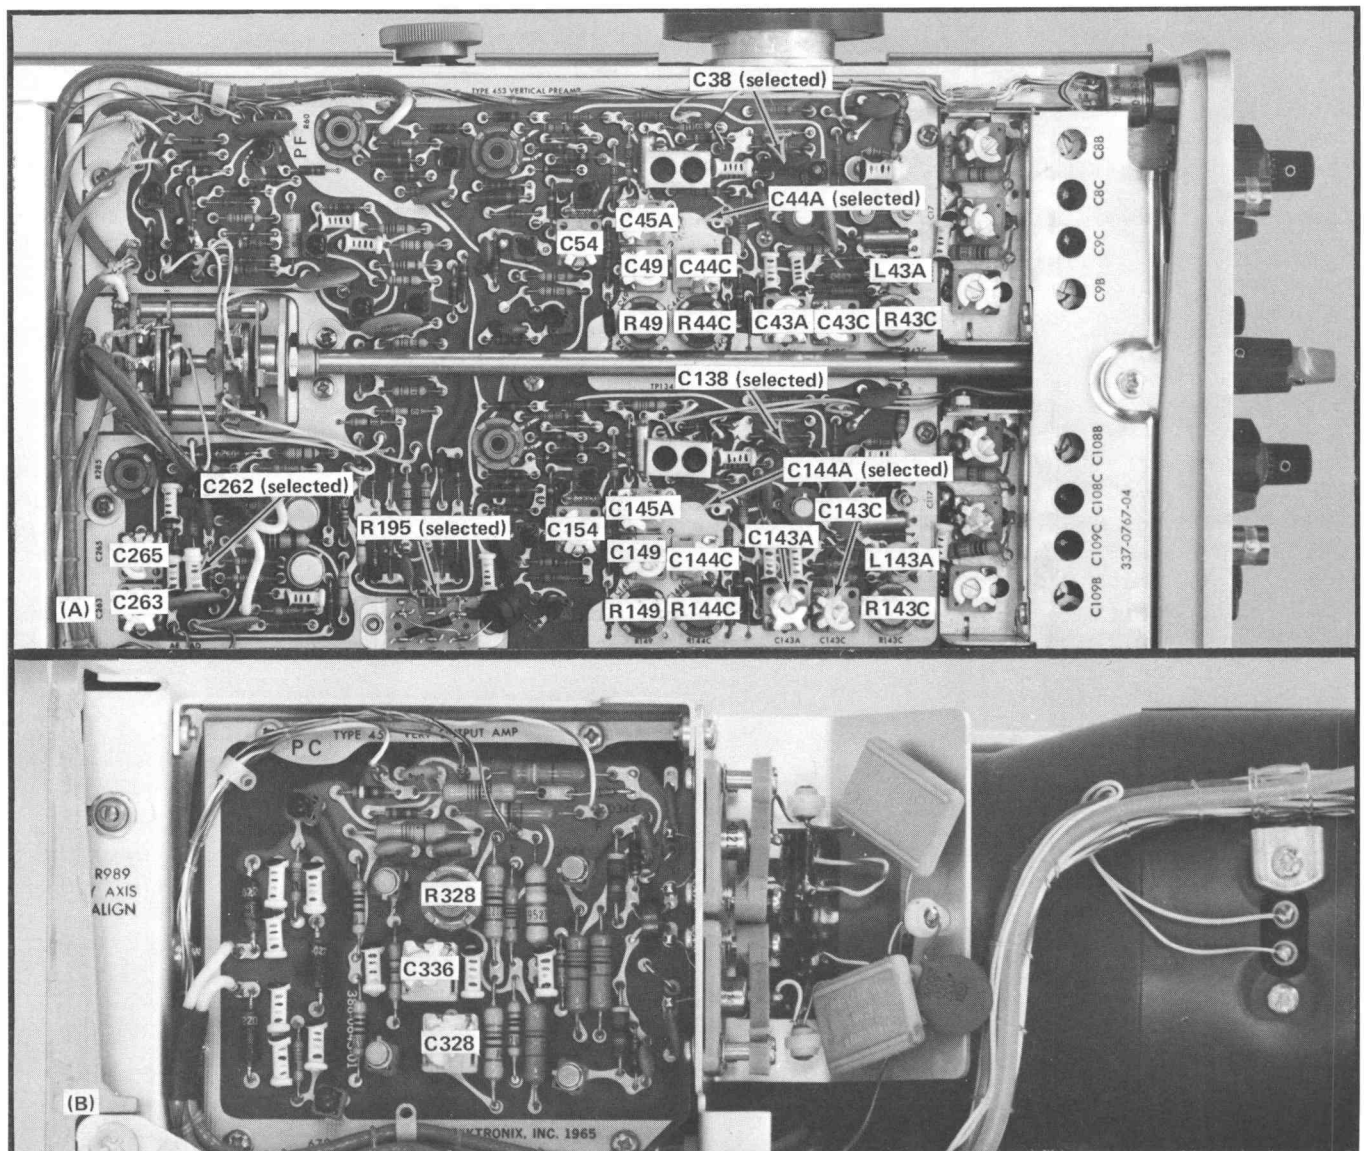

Fig. 5-7. (A) Location of high-frequency adjustments on Vertical Preamp board, (B) Location of high-frequency compensation adjustments on Vertical Output board.
The Vertical Preamp circuit board has four selected components which provide high-frequency compensation for the Vertical Deflection System. It should not be necessary to re-select these components unless the devices for which they compensate have been changed. Use Table 5-6 to select these components. If more than one component needs to be selected, select the components in the order given in this table. The location of each selected component is shown in Fig. 5-7. Table 5-6 lists the range of component values which provide correct compensation.
i. ADJUST—R49, C49, R328, C336, C328, C54, and C45A (see Fig. 5-7), in given order, for optimum square-wave response with minimum aberrations. Use the low-capacitance screwdriver to adjust the variable capacitors. Repeat these adjustments until optimum response is obtained.